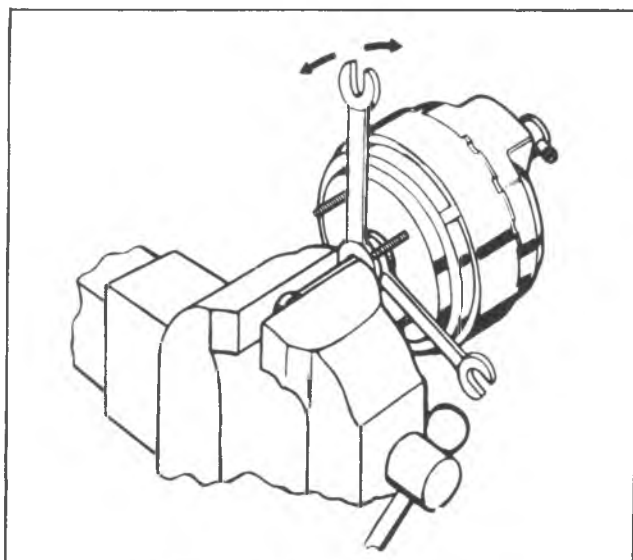

Fig. 5-1B—Removing Air Valve Rod
7. Position two small blocks of wood on either side of air valve rod and install end of air valve rod in vise, leaving just enough clearance to position two (2) open end wrenches between the vise and retainer on hub of rear plate.
8. Using the wrench nearest the vise as a pry, force the air valve off the ball end of the rod. **DO NOT** damage the plastic hub or allow vacuum cylinder to fall to the floor (fig. 5-1B and 5-2B).